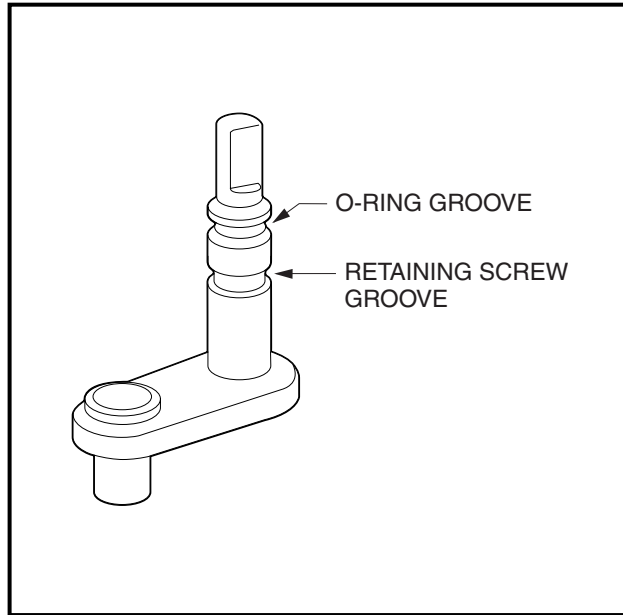

Figure 7-41 Differential Lock Shaft
1. If previously removed, slide the O-Ring into the top groove of the differential lock shaft (**Figure 7-41, Page 7-23**).